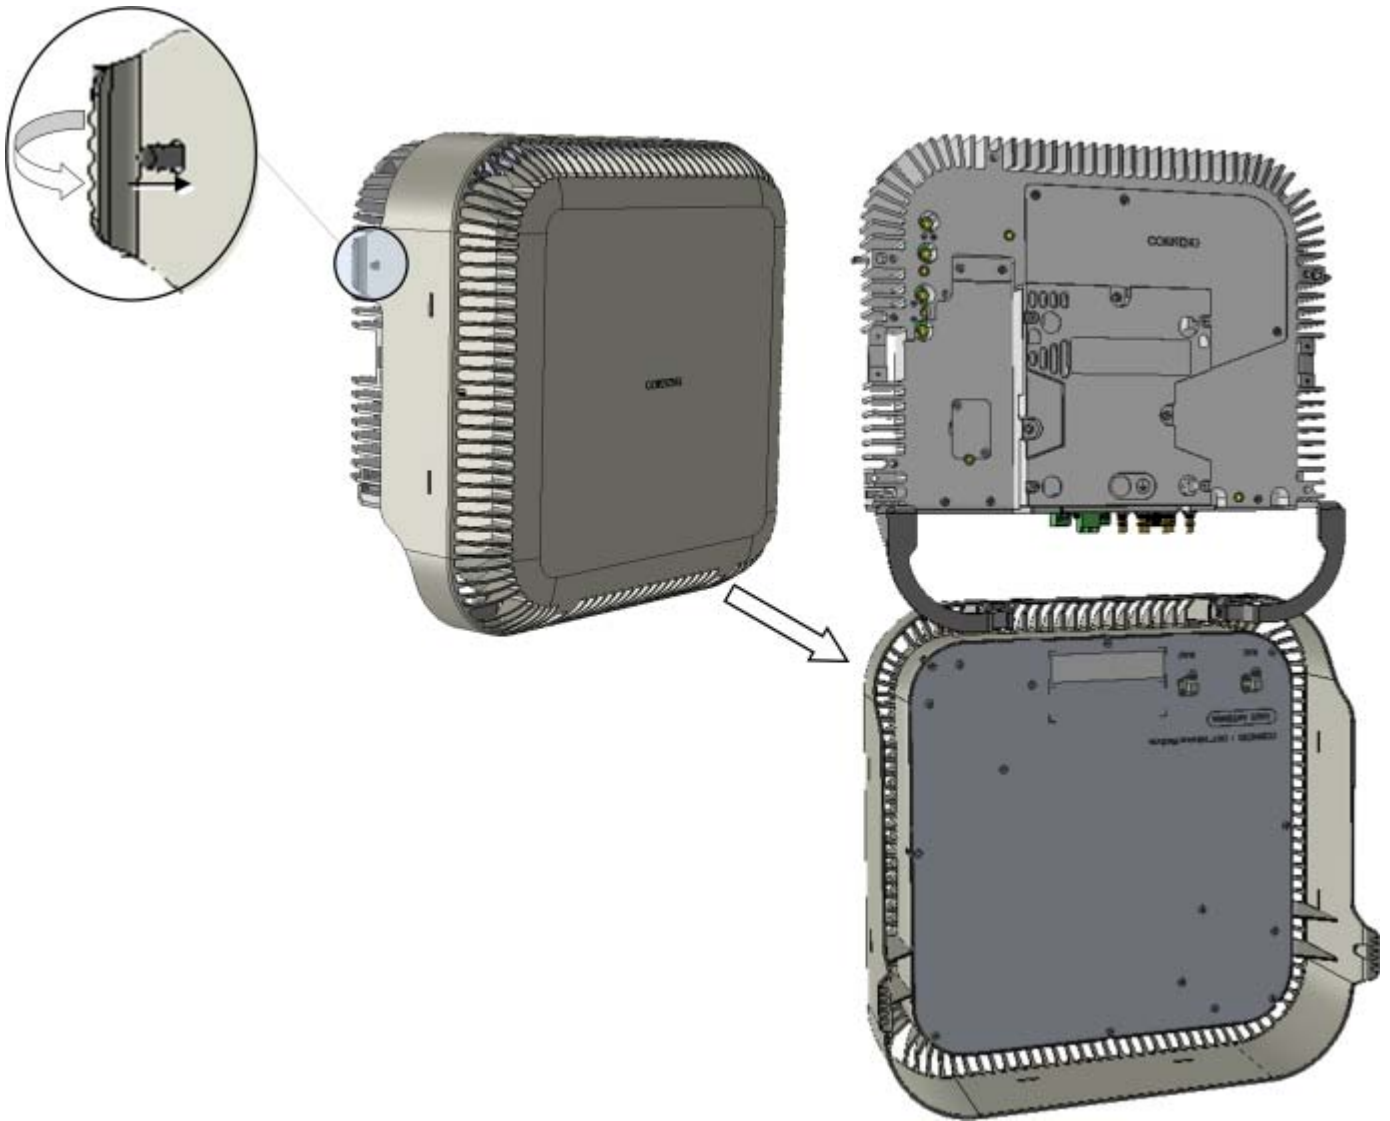

Figure 6-1. Opening RAU5x Antenna
- For RAU5x units with assembled broadband antenna – open antenna by pushing in on the pins on both sides of the antenna cover and pulling on the side handles, as show in Figure 6-1.